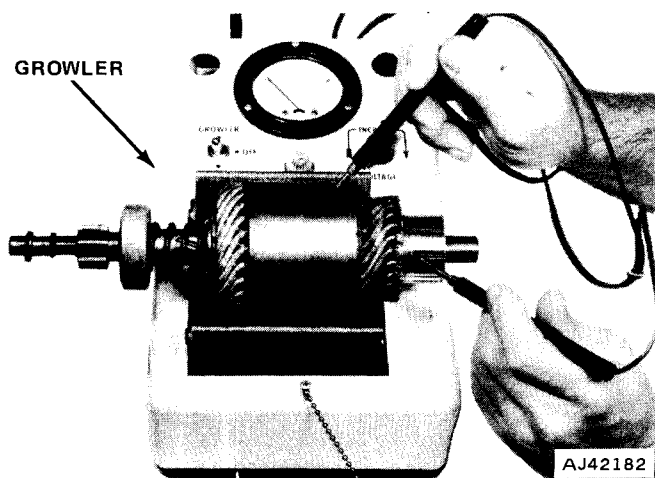

Fig. 3-46 Armature Ground Test
- (1) Place armature in growler jaws.
- (2) Turn power switch to test position.
- (3) Touch one test lead to armature core and other lead to each commutator bar one at a time and observe the test lamp. Test lamp should not glow. If test lamp glows on any bar, armature is grounded and must be replaced (fig. 3-46).